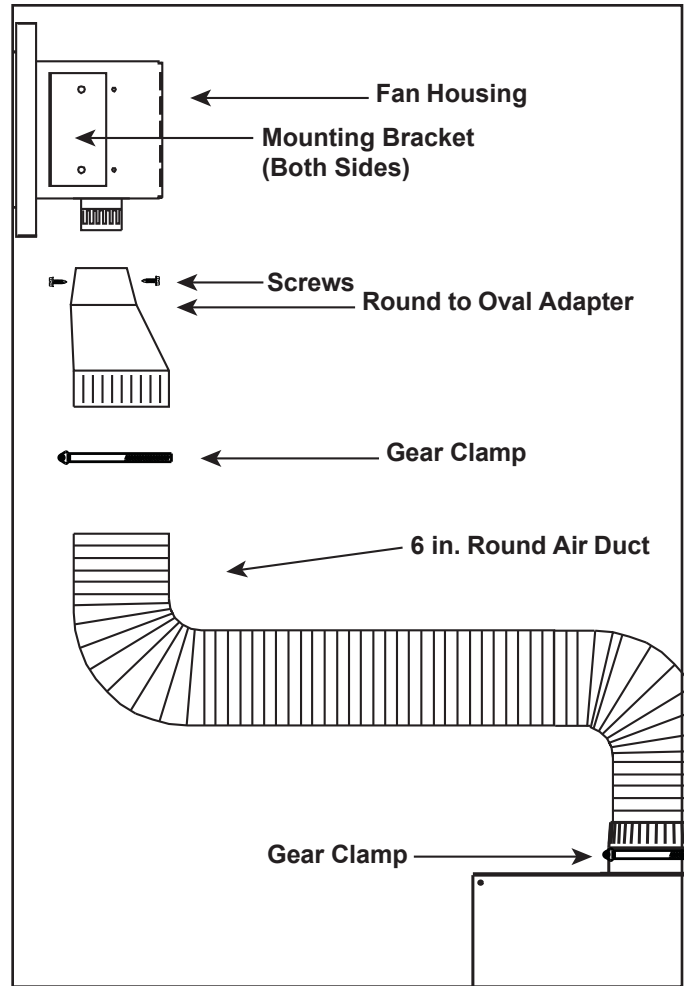

Figure 6.8
- Attach included air duct to the HEAT-ZONE-PRIMO collars with gear clamps. See Figure 6.8.
- Attach both mounting brackets to the fan housing. See Figure 6.8.
- Attach round to oval adapter to fan housing with two screws. See Figure 6.8.